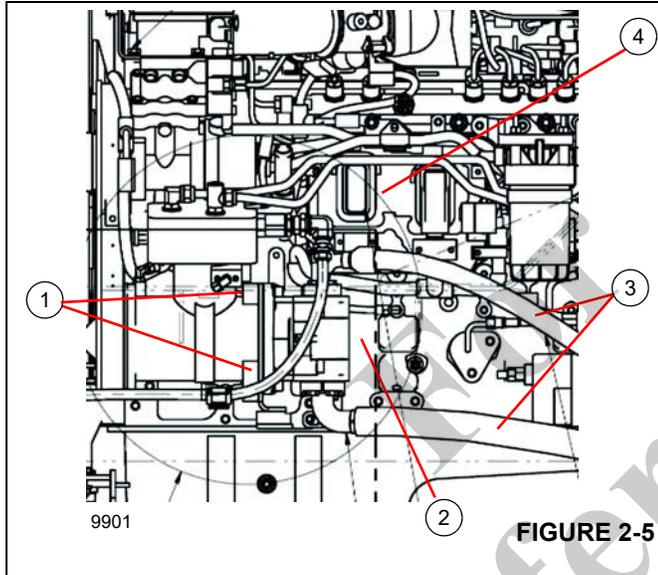

FIGURE 2-5
The engine drives the No. 1 gear pump (Figure 2-5) mounted to the air compressor. The No. 1 gear pump supplies the front axle power steering gear and the swing function.
Removal of No. 1 Pump (Refer to Figure 2-5).
Removal of No. 2 Pump, (refer to Figure 2-5)
3. Remove the capscrews and lockwashers (Figure 2-5) attaching the pump mounting bracket to the frame. Remove the pump assembly.
4. Remove the capscrews and flatwashers (Figure 2-5) securing the pump to the pump mounting bracket. Remove the pump.